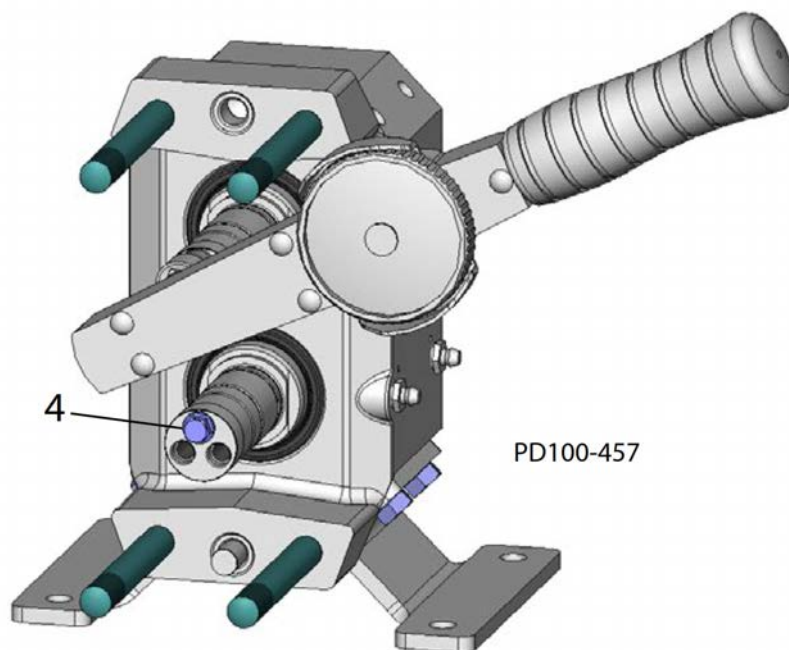

Fig. 50: Check Rolling Torque
3. Install one lug screw (Figure 50, item 4) into one of the tapped holes in each of the shafts and check the rolling torque of each shaft assembly with a torque wrench.